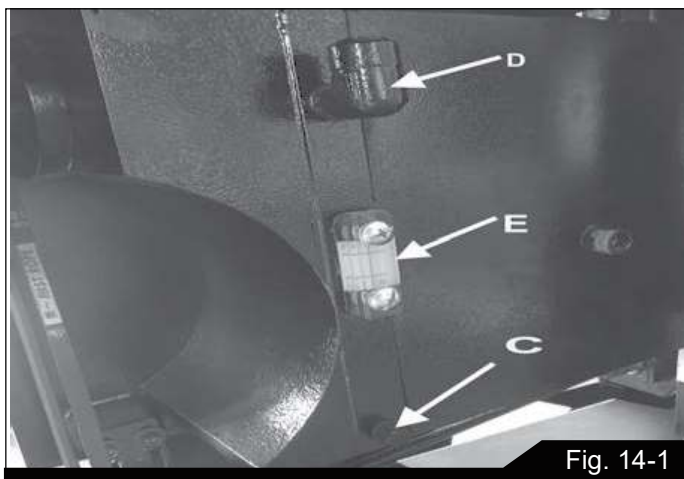

Fig. 14-1
2. Remove drain plug (C, Fig. 14-1) and allow gear oil to drain completely. Dispose of oil according to local regulations.
4. Use fill plug (D) to fill gear box with Mobilube™ HD 85W140, or equivalent. Capacity is 6L (1.58 Ga.). Do not allow the oil level to fall below the Low mark on the sight glass (E).